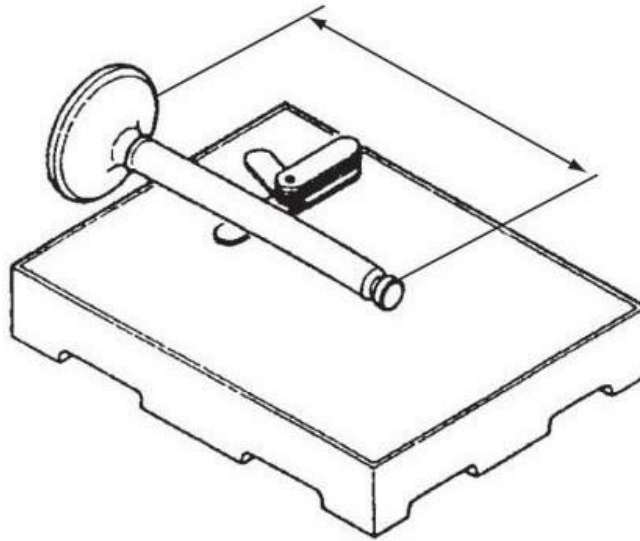

Figure 62. Valve Inspection Block
4. Place the valve stem on a flat inspection block or layout bed. Roll the valve until a gap can be observed between a portion of the valve stem and the surface of the block or bed. Use a feeler gauge to measure the gap (Figure 62). See Intake / Exhaust Valve and Guide chart for the service limit.